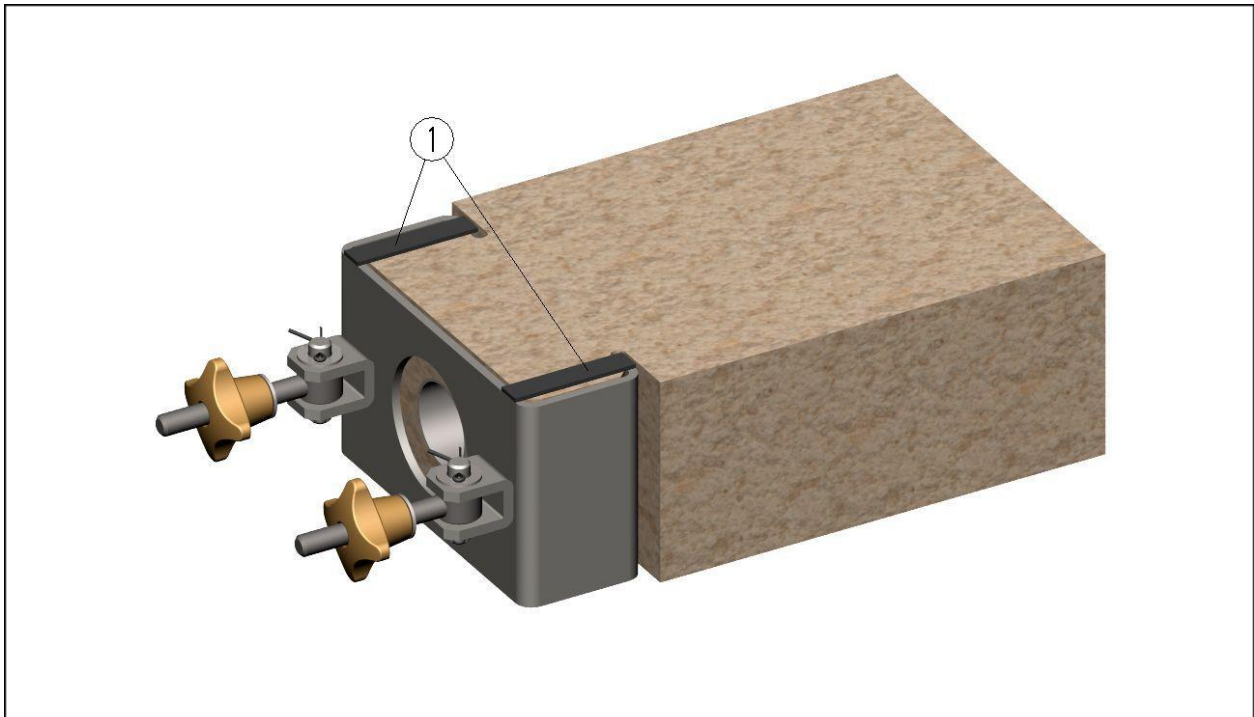

Figure 3
A metallic stop (1) permits to maintain the bracket adapter on the refractory block as described on the figure 3.